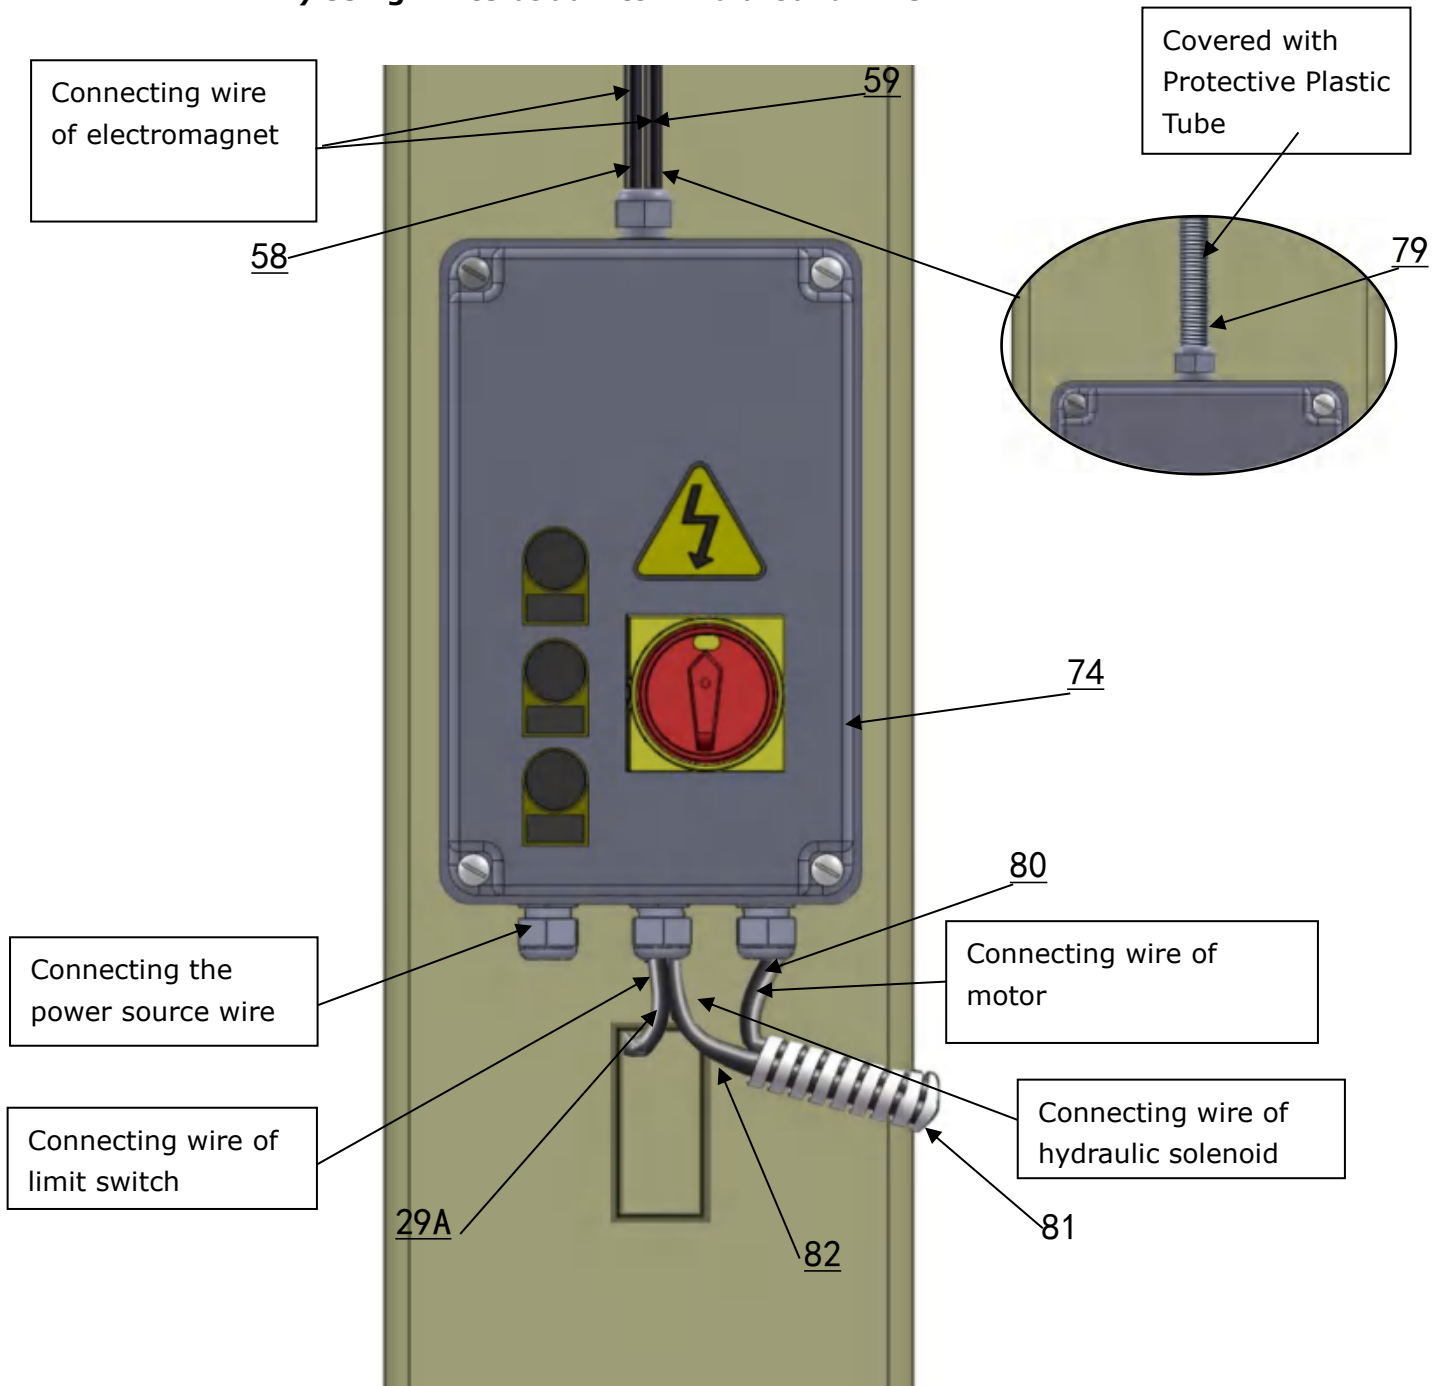

Fig.32
1. Connecting wire with control box (See Fig. 32).